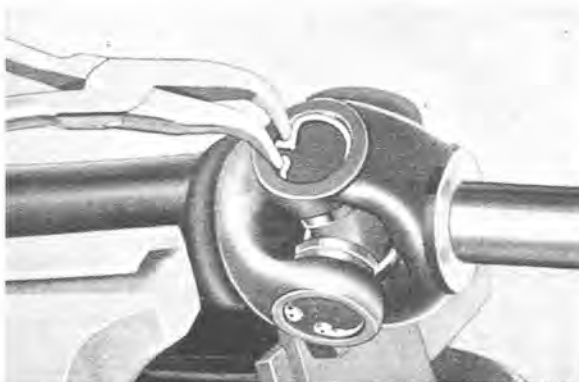

Fig. 4-127. Removing snap ring
1. Remove the snap rings securing the needle bearings in the yokes, see Fig. 4-127.